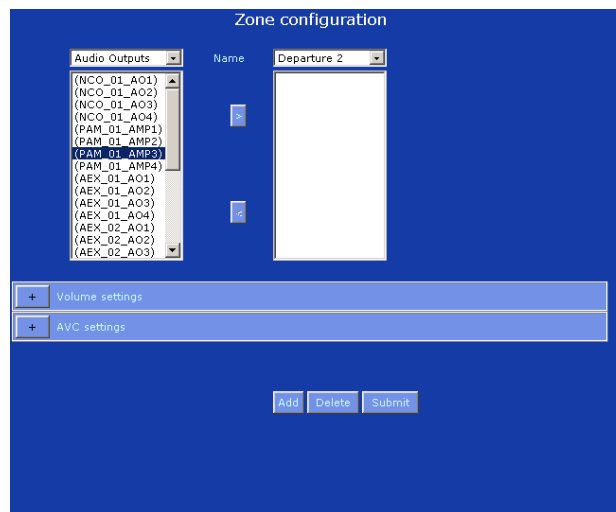

figure 36.7: Add zone, step 5
- 5 Select the output that must be added to the zone from the left box. For example, *PAM_01_AMP3* (see figure 36.7).